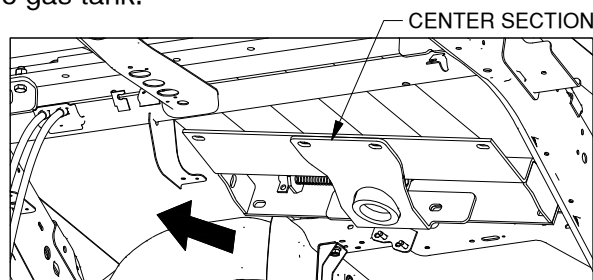

Figure D1: Looking up under truck bed. (Exhaust not shown.)
1. **Maneuver center section into place.** Raise the center section up between the frame on the passenger side of the truck and the exhaust pipe with the latch pin toward the driver side, as shown in Figure D1. Once it is over the exhaust, turn it flat and slide it over the gas tank.